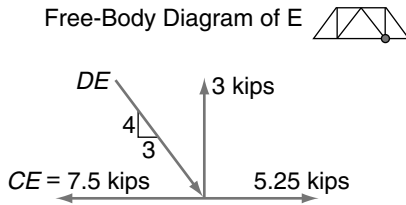

FIGURE 5-10
Step 19. Draw a free-body diagram of E showing $CE = 7.5$ kips, $EG = 3$ kips, and $EH = 5.25$ kips (Figure 5-10).